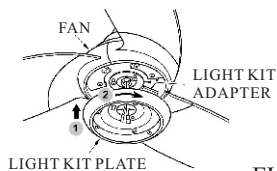

FIG.12
2. Gently pull the wire through light kit plate. Have the key hole over the loosened screws. Turn the light kit plate until it get the end of narrow end. Then, tighten the previously removed and loosened screws. (see Fig.12 & 13)